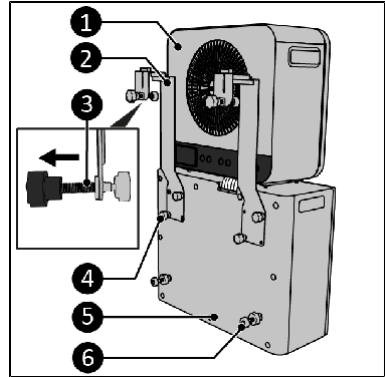
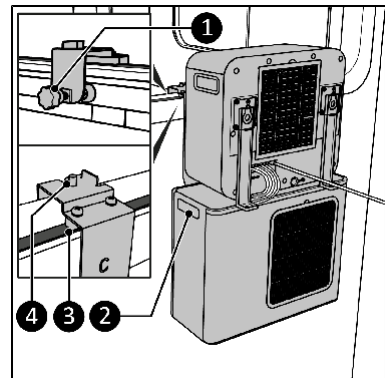

Figure 5
Figure 6
1. Position the indoor unit (Fig. 5, Ref. 1) freely on the outdoor unit (Fig. 5, Ref. 5).
2. Remove the four cap nuts (Fig. 5, Ref. 4).
3. Install the two lower caravan mounting brackets (Fig. 5, Ref. 2) on the outdoor unit using two screws per bracket (Fig. 5, Ref. 4).
4. Ensure that the adjustment bolts (Fig. 5, Ref. 3) are fully tightened.
5. Install the adjustment bolts and the adjustment spacer nuts (Fig. 5, Ref. 6) on the outdoor unit (Fig. 5, Ref. 5).
6. Secure the upper caravan mounting brackets (Fig. 6, Ref. 3) to the indoor unit (Fig. 5, Ref. 1) using the rubber hooks (Fig. 6).
8. Fit the bracket onto the window opening using the side handles of the outdoor unit (Fig. 6, Ref. 2). Ensure that the grey pads are correctly positioned within the window seal.
9. Manually tighten the bolts (Fig. 6, Ref. 1) against the caravan wall.
10. Keep the cap nuts (Fig. 1, Ref. 8) within reach in order to cover the threaded ends of the mounting brackets (Fig. 6, Ref. 4).
13. Check that the outdoor unit is level and adjust it if necessary by adjusting the spacer bolts (Fig. 5, Ref. 6).